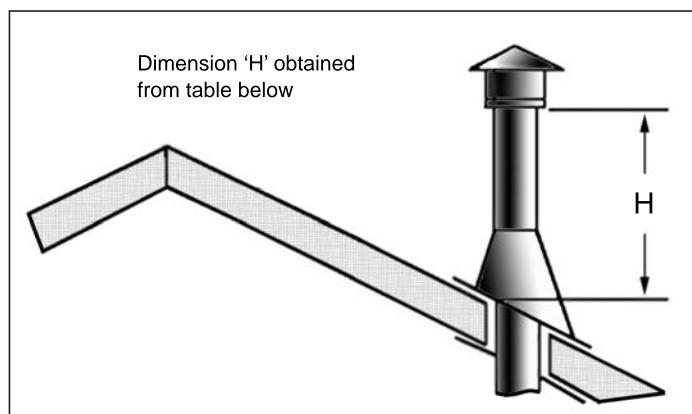

Figure 58: Height of Vertical Termination;
Step 8. Continue to add pipe sections until the height of the vent cap meets the minimum code requirements. Refer to Figure 58 and Table 7. Note that for steep roof pitches, the vent height must be increased. In high wind conditions, nearby trees, adjoining roof lines, steep pitched roofs, and other similar factors can result in poor draft, or down drafting. In these cases, increasing the vent height may solve the problem.
Step 9. Slip the storm collar over the pipe, and push it down to the top of the roof flashing as shown in Figure 58. Use the non-hardening sealant around the joint between the pipe and the storm collar.